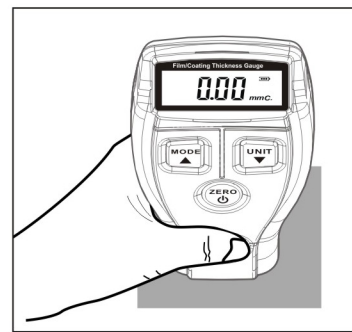

Figure 3
- c. Lightly press the probe onto the ferrous substrate surface without coating. The LCD displays 0.00 and then beeps twice. Carry out 0.00 calibrations. ( Figure 3)